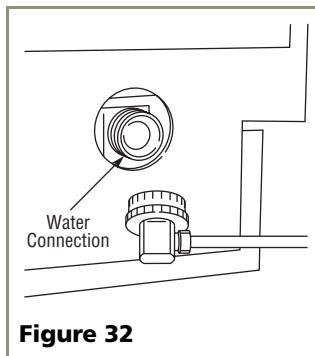

Figure 32
1. Install the 1/4 inch OD copper water line from the main water source (see **Figure 32**).